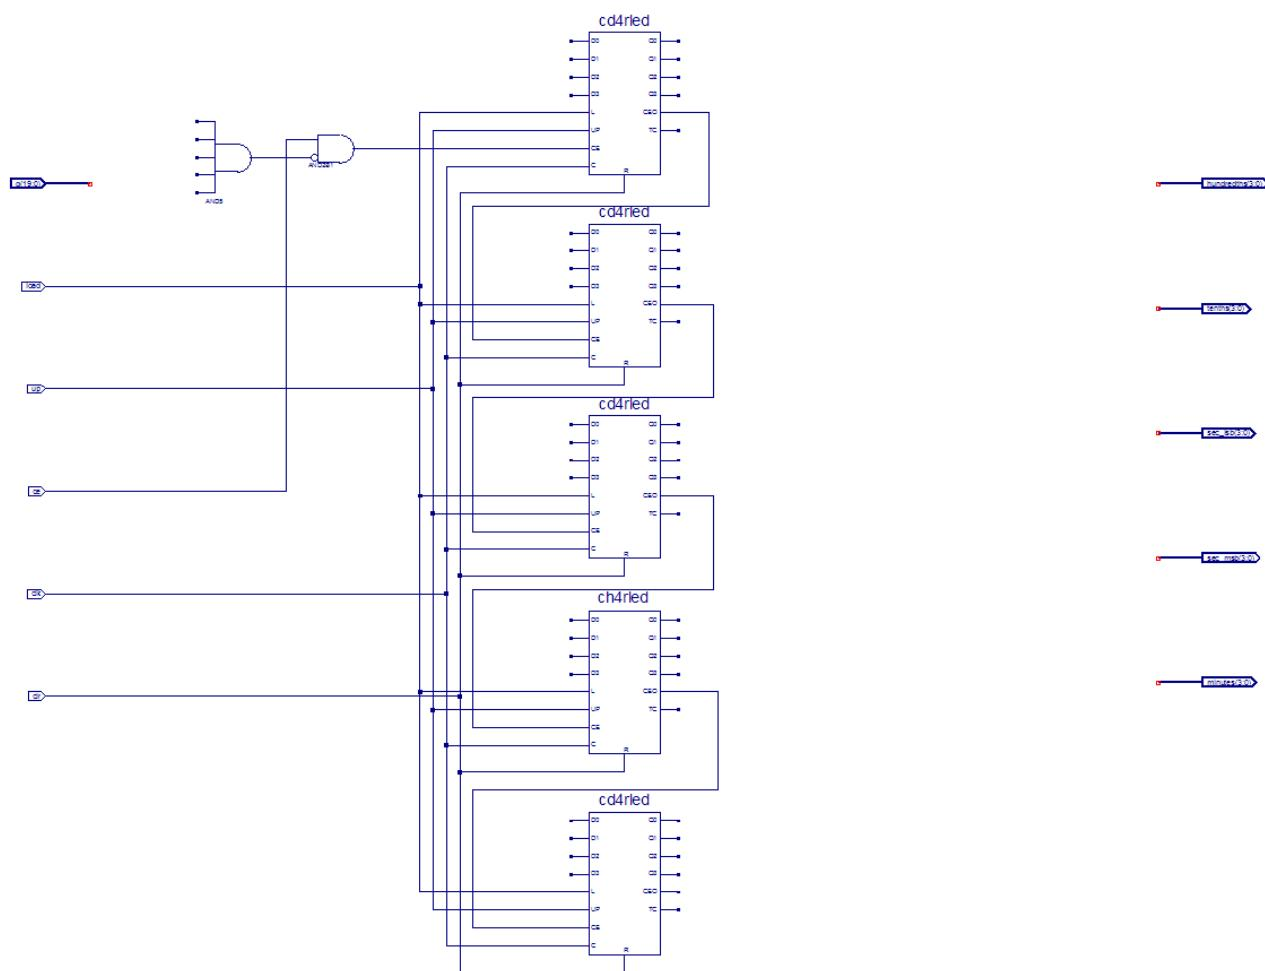

Figure 4-8: Partially Completed time\_cnt Schematic
- AND5Refer to Figure 4-8 for placement locations.
4. Connect the **load**, **up**, **clk**, and **clr** input I/O markers respectively to the **L**, **UP**, **C**, and **R** pins of each of the five counter blocks and connect the **CEO** pin of the first four counters to the **CE** pin of the next counter as shown in Figure 4-8.